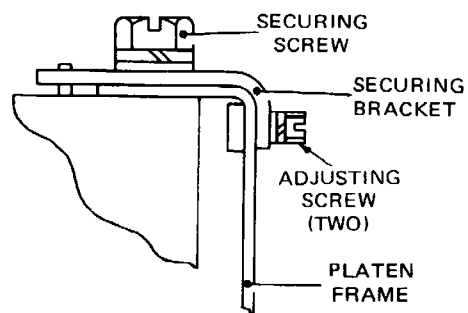

Fig. 4.118 PLATEN FRAME
- 126.2 Slacken the two adjusting screws and the securing screw at each end of the platen (Fig. 4.118) so that they are finger-tight, move the platen frame in relation to the securing bracket at each end to correct the gap, and tighten the securing screw and the two adjusting screws at each end of the platen.